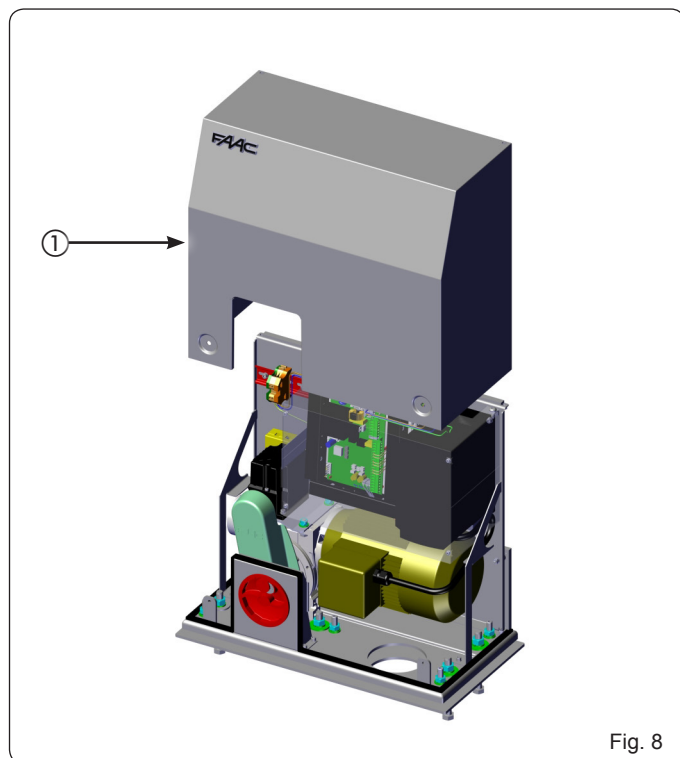

Fig. 8
1. Lift the cover to remove it (Fig. 8 ref. ①).